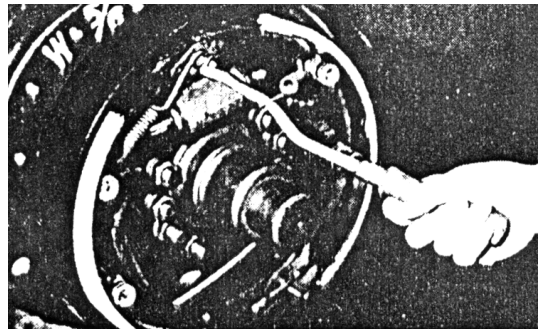

Fig. 8-24
(8) Install the shoe guide plate on the anchor pin, and install the shoe return spring. (See Fig.8-24)